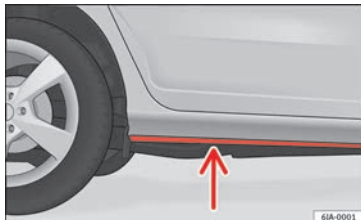

Fig. 94 Driving through water.
- Determine the depth of the water before entering. Water can reach a maximum height of below the door sill »» Fig. 94.